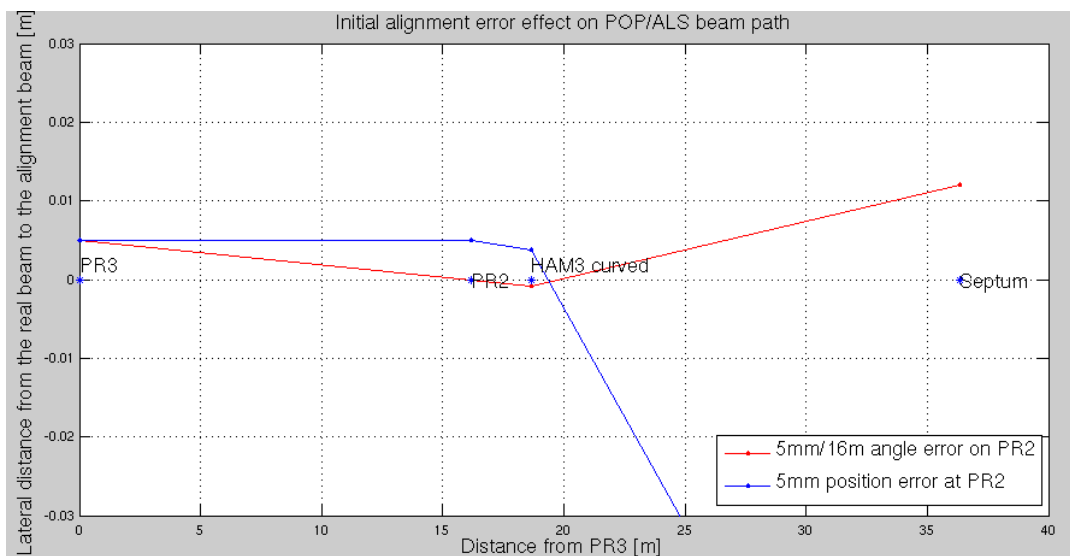

Figure 5: Distance between the real beam and the alignment beam.
- A 5mm error on IRIS1 is fatal in that the beam would not come out of the septum window without moving the picomotor mirror. See Figure 5.